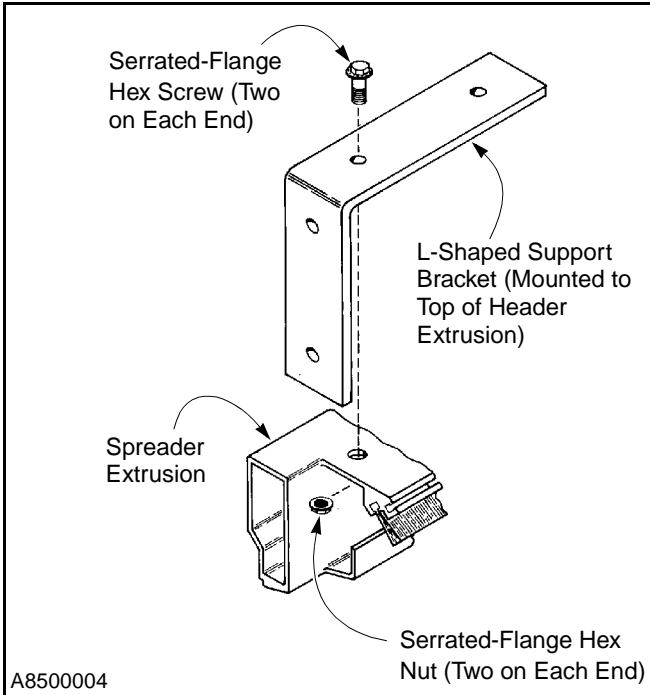

Figure 17
1. Attach an L-shaped support bracket to each end of the spreader extrusion using two $\frac{3}{8}$ -16 x $1\frac{1}{4}$ -in. serrated-flange hex screws and nuts. The brackets and mounting hardware were shipped in the small parts carton. (See Figure 17.)